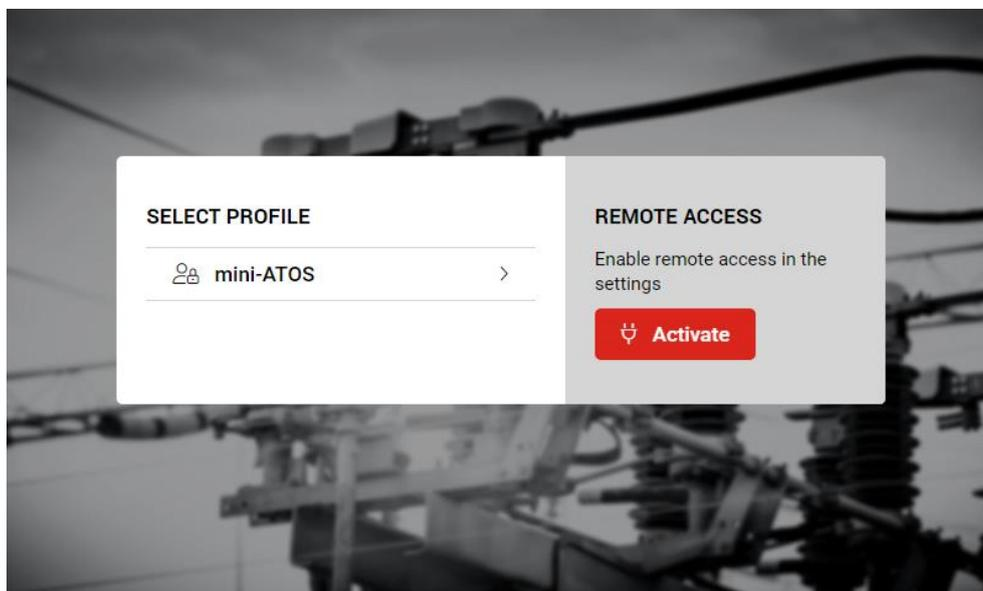

Figure 52: Select Profile page on the mini-ATOS display
- 3- From the home page or the main menu, tap the logout icon  to see the select profile page like Figure 52